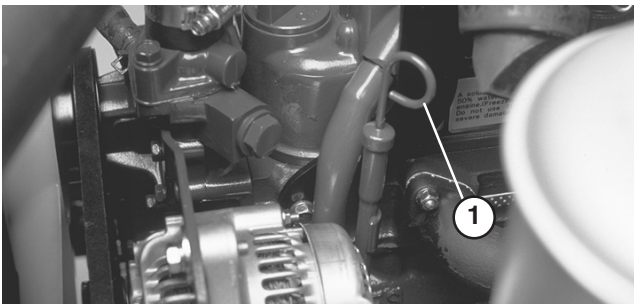

Figure 25
2. Remove dipstick (Fig. 25) and wipe it with a clean rag. Push dipstick down into dipstick tube and make sure it is seated fully. Pull dipstick out and check level of oil. If oil level is low, add enough oil to raise level to FULL mark on dipstick.